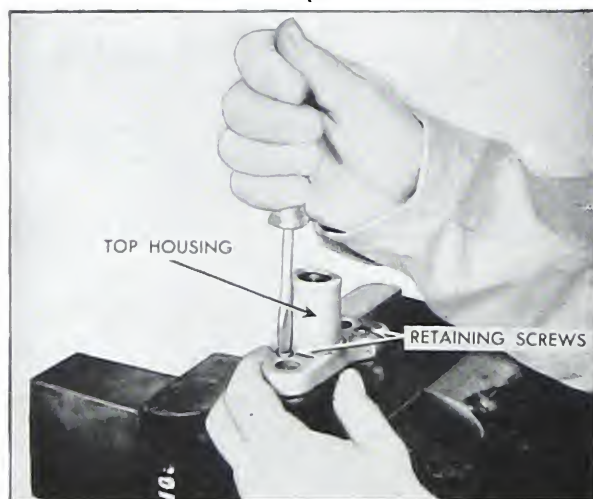

Fig. 6-9. Removing top housing
9. If the injector is standard type, remove the filler head screws and remove the injector top housing. (Fig. 6-9).